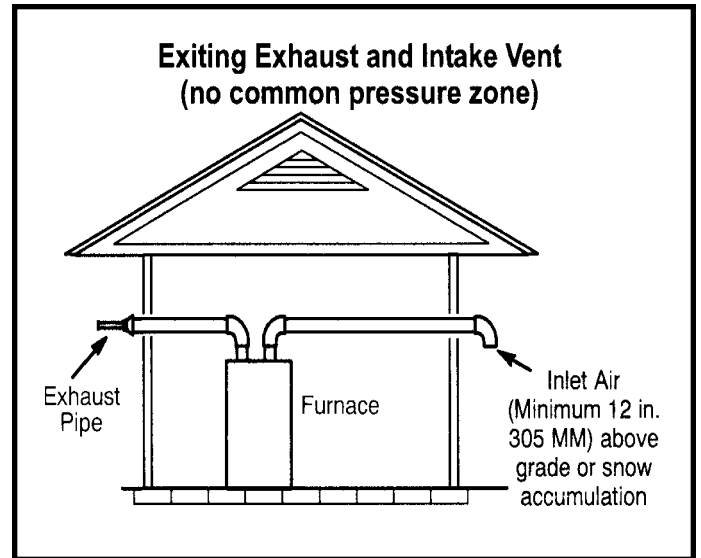
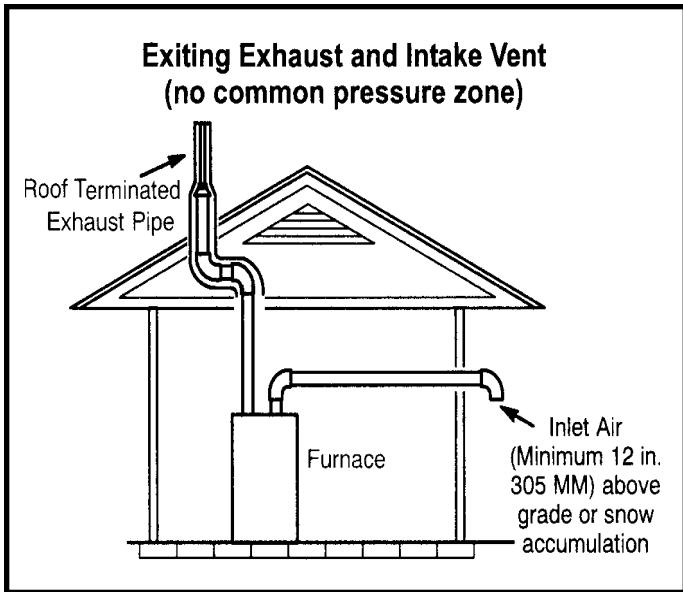

Figure 36
Figure 37
NOTE: Flue gas may be slightly acidic and may adversely affect some building materials. If any vent termination is used and the flue gases may impinge on the building material, a corrosion-resistant shield (minimum 24 inches square) must be used to protect the wall surface. If the optional tee is used, the protective shield is required. The shield should be constructed using wood, plastic, sheet metal or other suitable material. All seams, joints, cracks, etc. in the affected area should be sealed using an appropriate sealant. See Figure 36.
1. Intake and exhaust terminations are not required to be in the same pressure zone. You may exit the intake on one side of the structure and the exhaust on another side (Figure 36). You may exit the exhaust out the roof and the intake out the side of the structure (Figure 37).